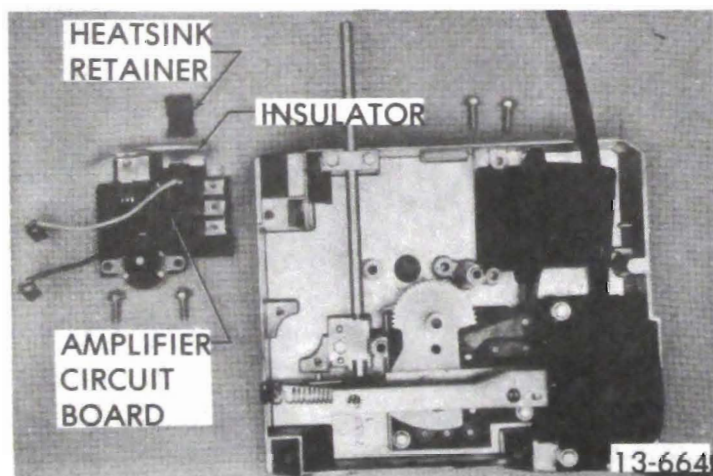

Figure 13-148 Amplifier Circuit Board - Removed
1. Replace electrical connector to amplifier terminals on circuit board and place circuit board back into the programmer. See Figure 13-148.
2. Replace the two (2) amplifier retaining screws at amplifier feedback potentiometer.
3. Replace the two (2) programmer electrical connector retaining screws.